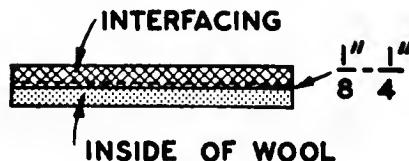

Fig. 273. Stitching the interfacing onto the belt.
- Stitch the interfacing  $\frac{1}{8}$  to  $\frac{1}{4}$  in. below the foldline onto the half of the band which lies nearer the wearer when attached to the skirt (Fig. 273).